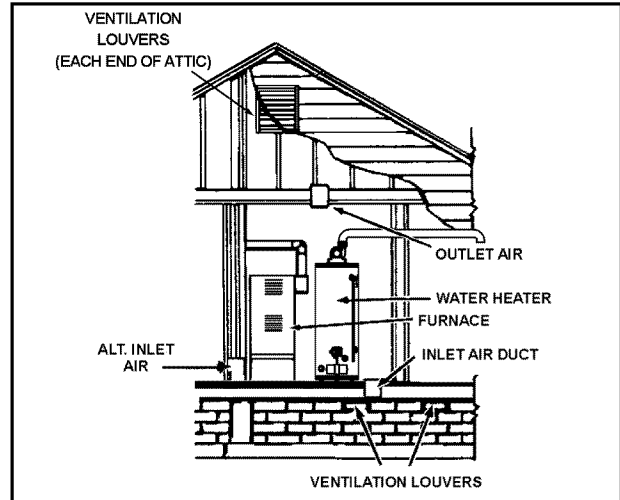

Figure 16
1. When directly communicating with the outdoors, each opening shall have a minimum free area of 1 square inch per 4,000 Btu/hr (5.5cm²/kW) of total input rating of all equipment in the enclosure (see Figure 16).